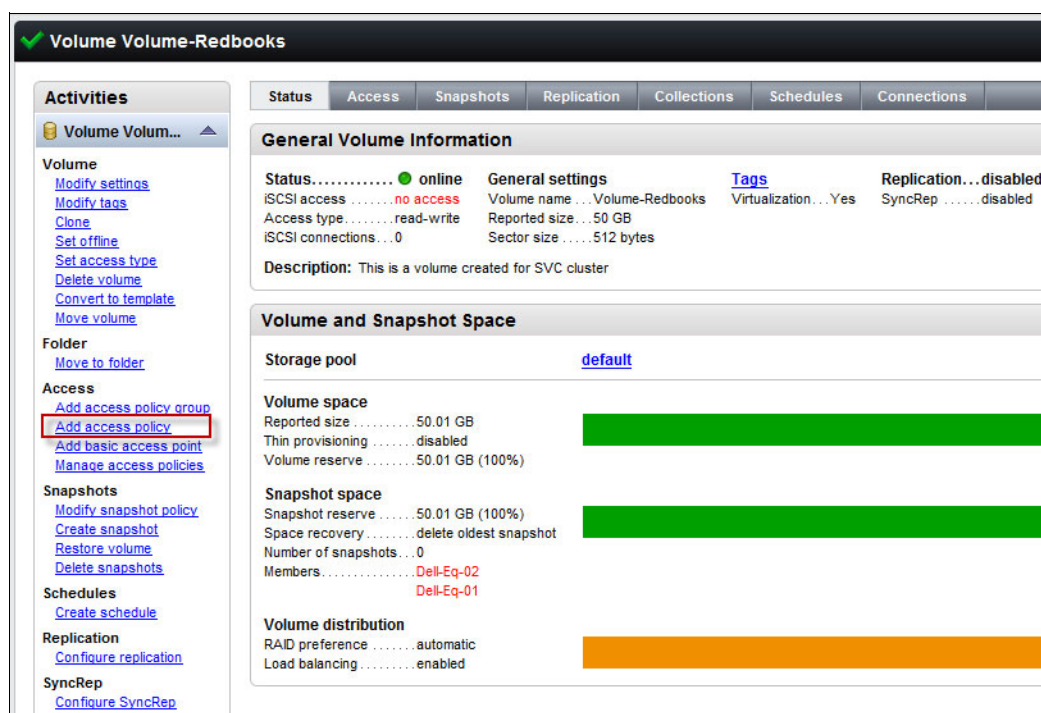

Figure 14-20 Window to add an access policy
3. In the Activities window, click **Add access policy**, as shown in Figure 14-20.